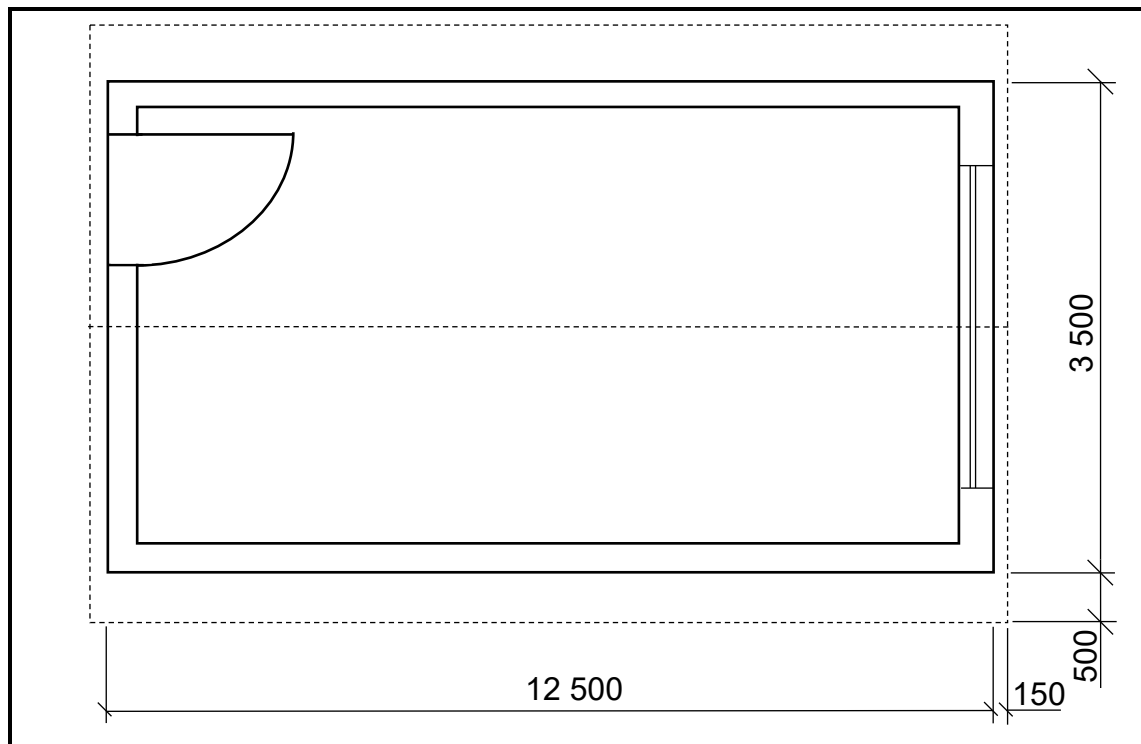

FIGURE 6.6
6.6 FIGURE 6.6 below shows the floor plan of a small building.